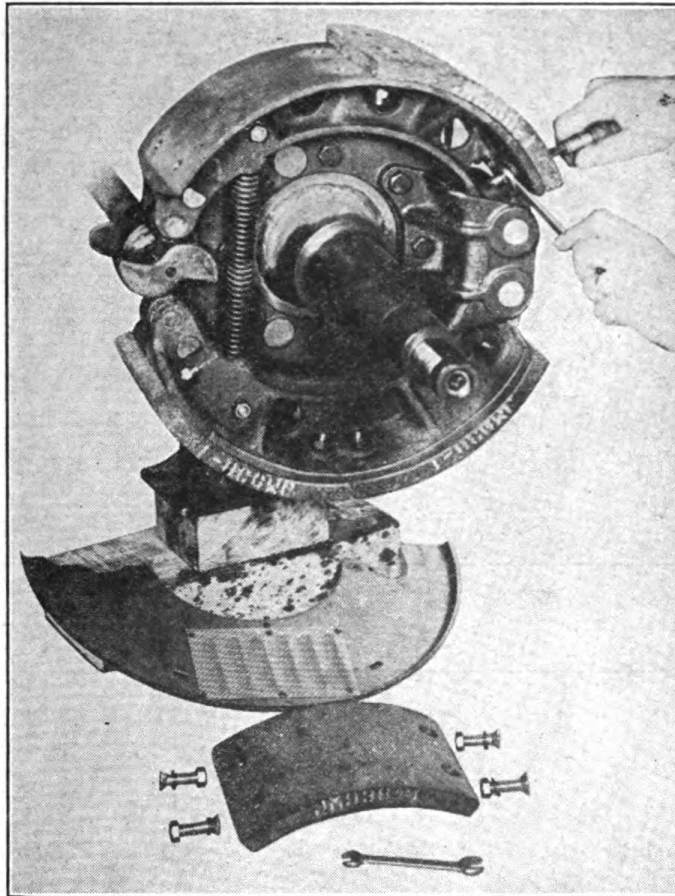

FIGURE 24. REPLACEMENT OF LINING.
5. REPLACEMENT OF LINING (Fig. 24).—*a.* Remove the wheel and hub assemblies in one unit.